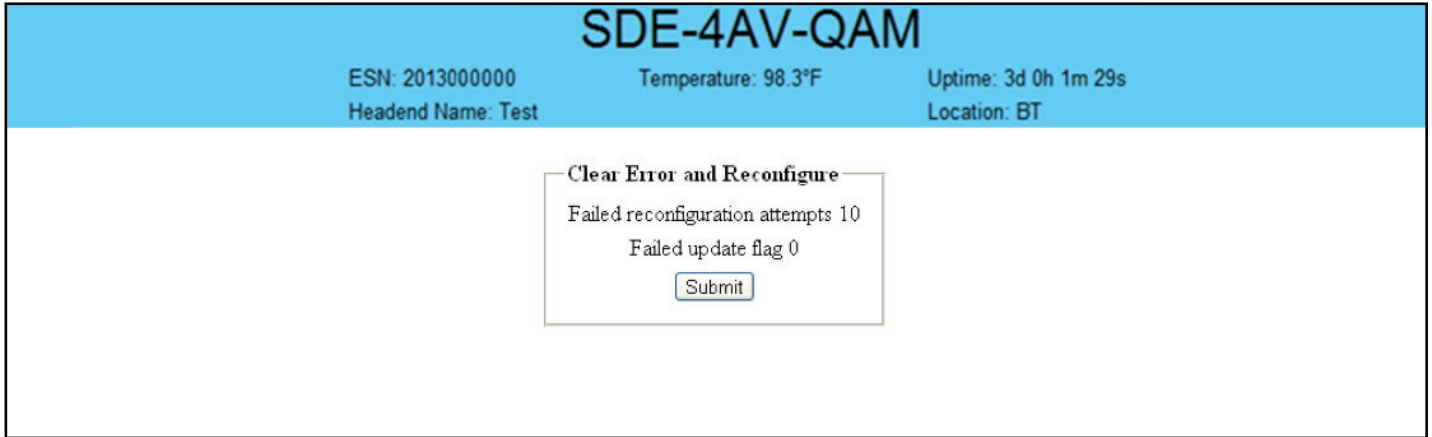

Figure 5.15
**Warning:** Care should be taken at this time, if misspelled characters or letters are typed by accident, or you have missed to type the bin command in Step 1, this could cause the SDE-4AV-QAM Flash memory to be corrupted. The SDE-4AV-QAM will try to reload the OS using the corrupted file ten (10) times before it displays the following screen (Figure 5.15). You can recover from this situation by repeating the procedure all over again from Step 1 above.